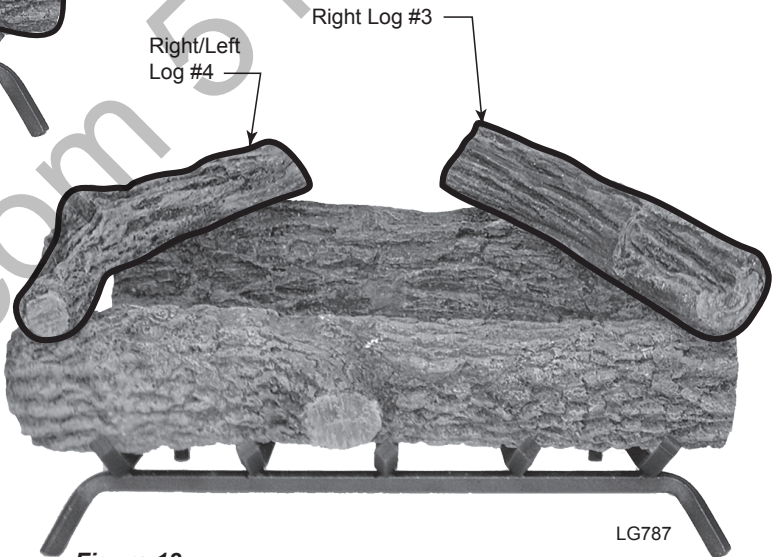

Figure 18 - Place Right Log #3 and Right/Left Log #4
3. Place Right Log #3 on top right of Log #1 and Log #2. *Figure 18*
4. Place Right/Left Log #4 on top left of Log #1 and Log #2. *Figure 18*